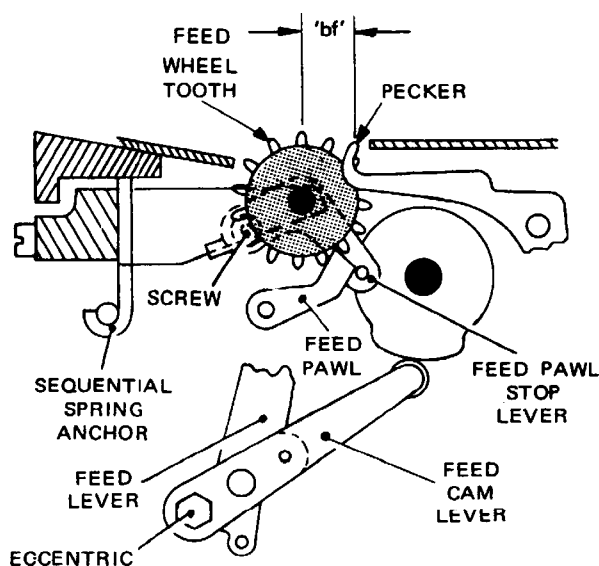

Fig. 4.60 TAPE FEED PITCH
- slacken the screw securing the feed pawl stop lever, Fig. 4.60,